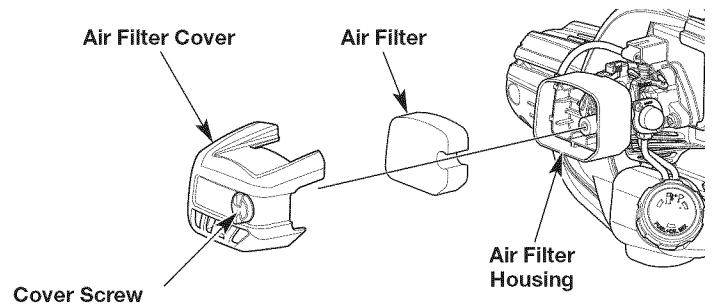

Fig. 15
1. Open the air filter cover by unscrewing the cover screw (Fig. 15).
2. Remove the air filter from inside the air filter housing (Fig. 15).